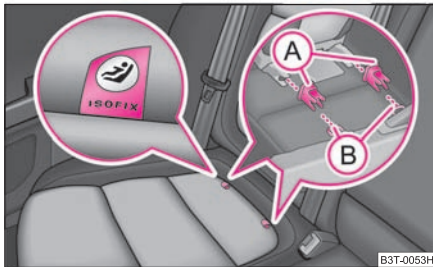

Fig. 172 Locking eyes (ISOFIX system)
- Insert the mounting funnels **(A)** onto the locking eyes **(B)** between the backrest and seat cushion ⇒ fig. 172.